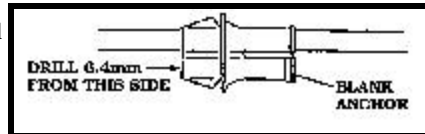

Figure 24
2. This anchor is hollow except at one end. Use a **6.4mm (.25")** bit drill as shown in **Figure 24**.